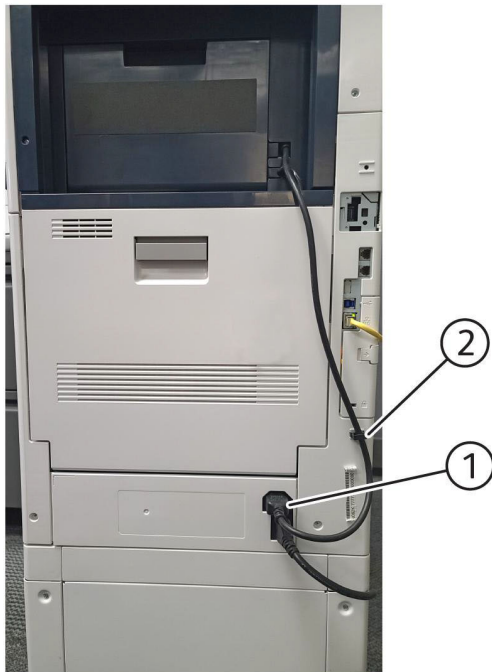

Figure 1 Release the harness
1. Disconnect the power cord (1) from the IOT, then release the harness clamp (2), Figure 1.